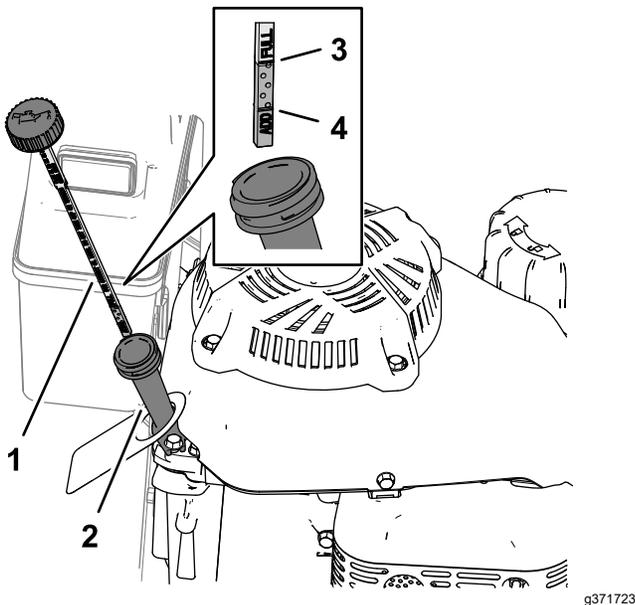

Figure 30
2. Clean around the dipstick (Figure 30).